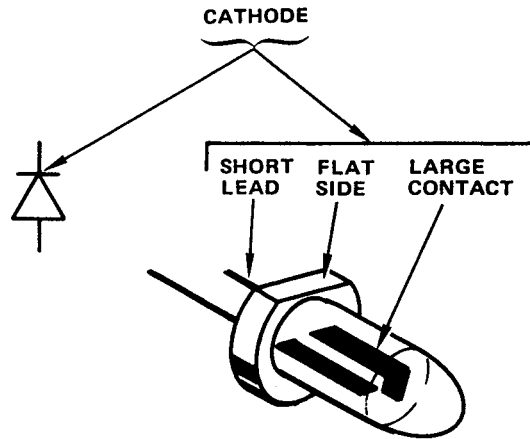

Figure 5-15. Light-emitting diode (LED) lead identification.
t. Light-Emitting Diode (LED) Replacement (Figure 5-15).
(1) To remove the small gray buttons on push button switches, hold the switch shaft and pull the button off. To replace them, hold the shaft and push the button on.